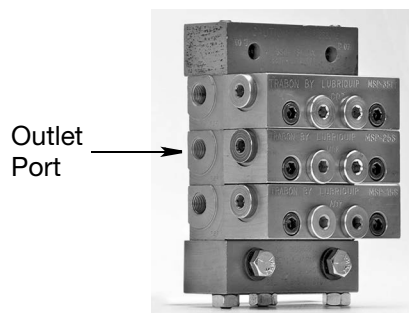

FIG. 11
8. Install outlet fittings in all ports (FIG. 11).